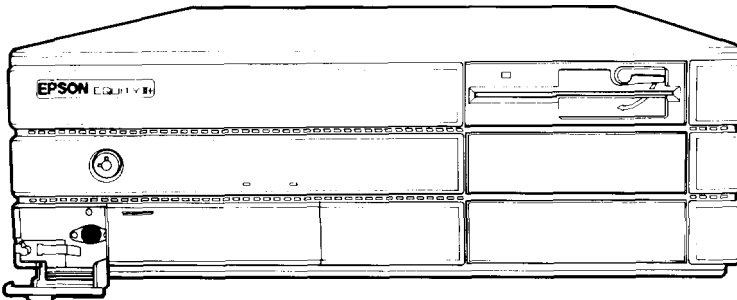

Figure 1-7. Opening the keyboard connector cover
2. Open the cover on the lower left corner on the front panel of the main unit, as shown in Figure 1-7.